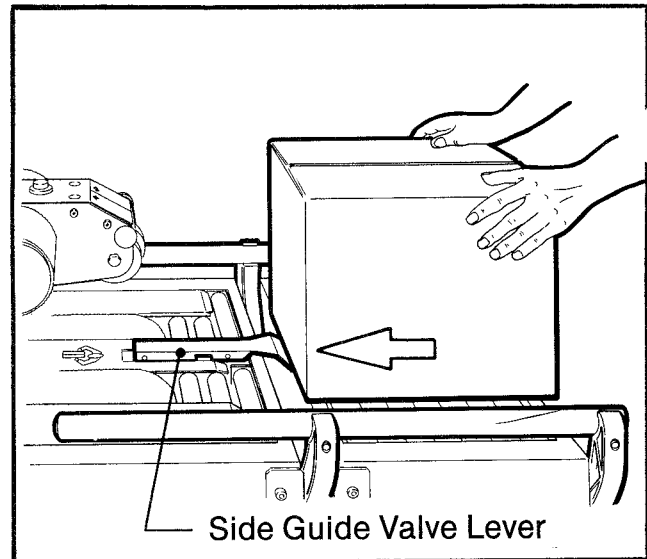

Figure 10 - Side Guide Valve Lever
1. A **valve lever** in the center of the infeed roller conveyor actuates movement of the **side guides**. When the operator pushes a box onto the infeed conveyor, as shown in Figure 10, the lever is depressed causing the air cylinder powered side guides to move inward, therefore centering the box.